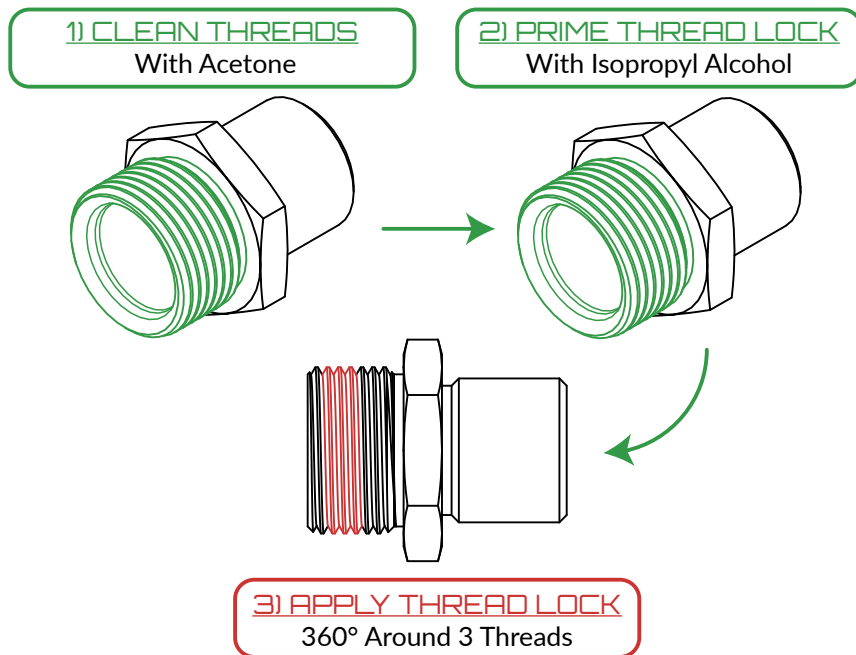

Figure 3 - Apply Thread Locker to the Short End of the Filter Screw
2. Clean and prep the **short side** of the oil filter adapter screw with acetone and alcohol, as described in Figure 3. A thread lock primer may also be used.
4. Apply the included red thread lock onto the **short side** of the oil filter adapter screw as shown in Figure 3.